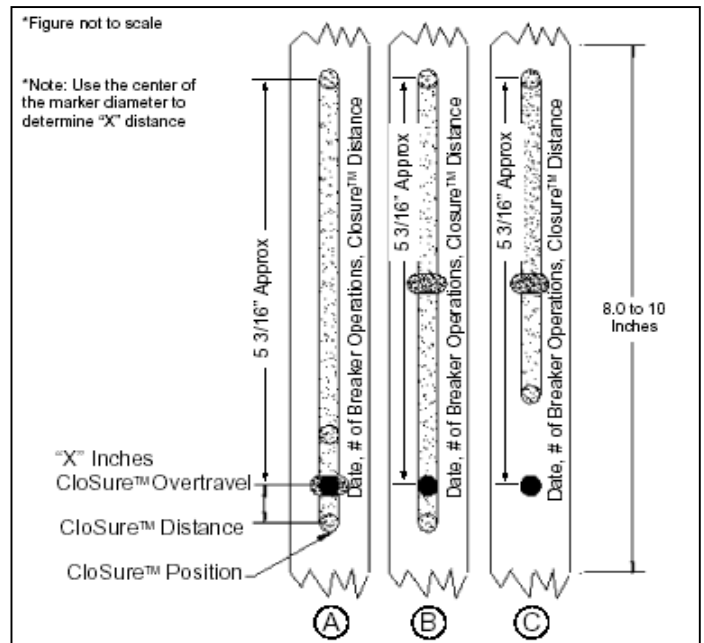

Figure 6-18 Illustrative Testing Tape Sample
Step 13 - Evaluate the CloSure™ performance by comparing the test tape with the illustrations in Figure 6-18. If the marking is similar to 6-18A, measure the over travel